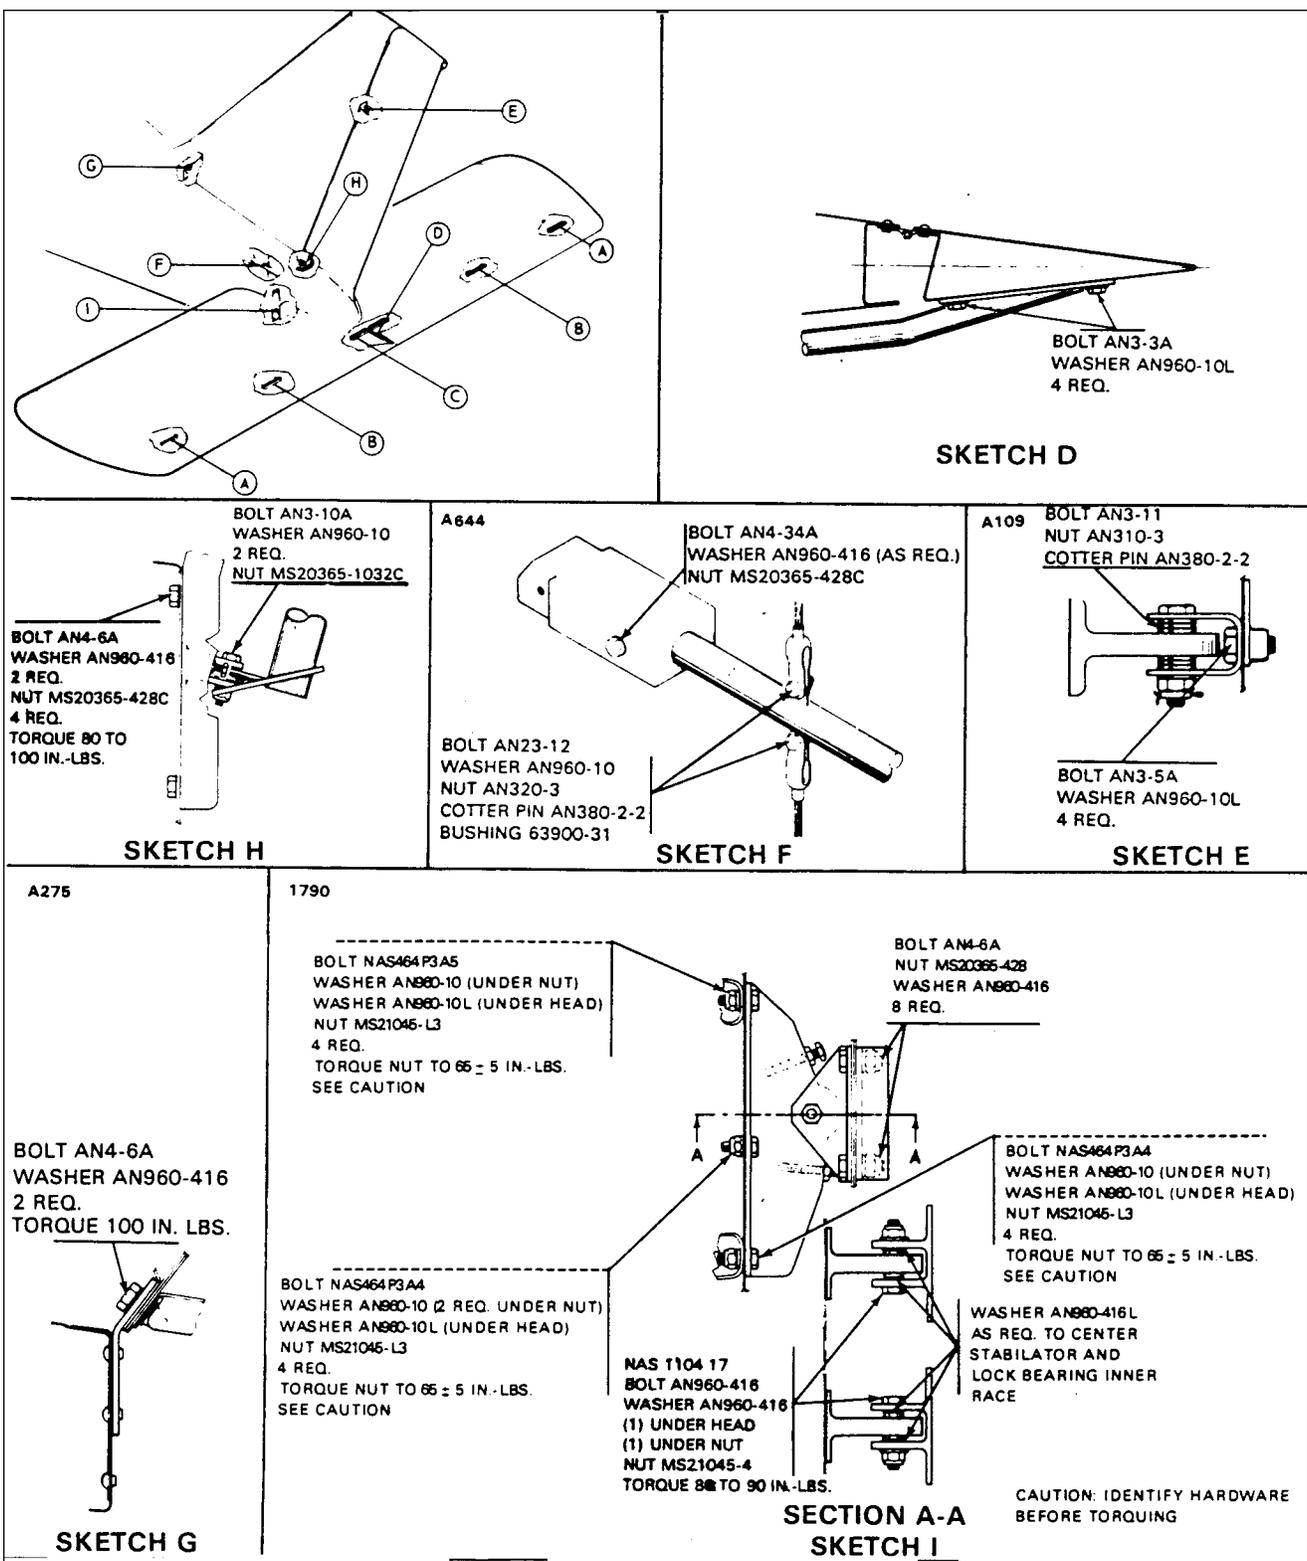

Figure 55-1. Empennage Group Installation
**REMOVAL OF STABILATOR** (figure 55-1)
**INSTALLATION OF STABILATOR** (figure 55-1)
#### **REMOVAL OF STABILATOR TRIM TAE}** (figure 55-1)
#### **INSTALLATION OF STABILATOR TRIM TAB** (figure 55-1)
##### **INSTALLATION OF RUDDER (figure 55-1)**